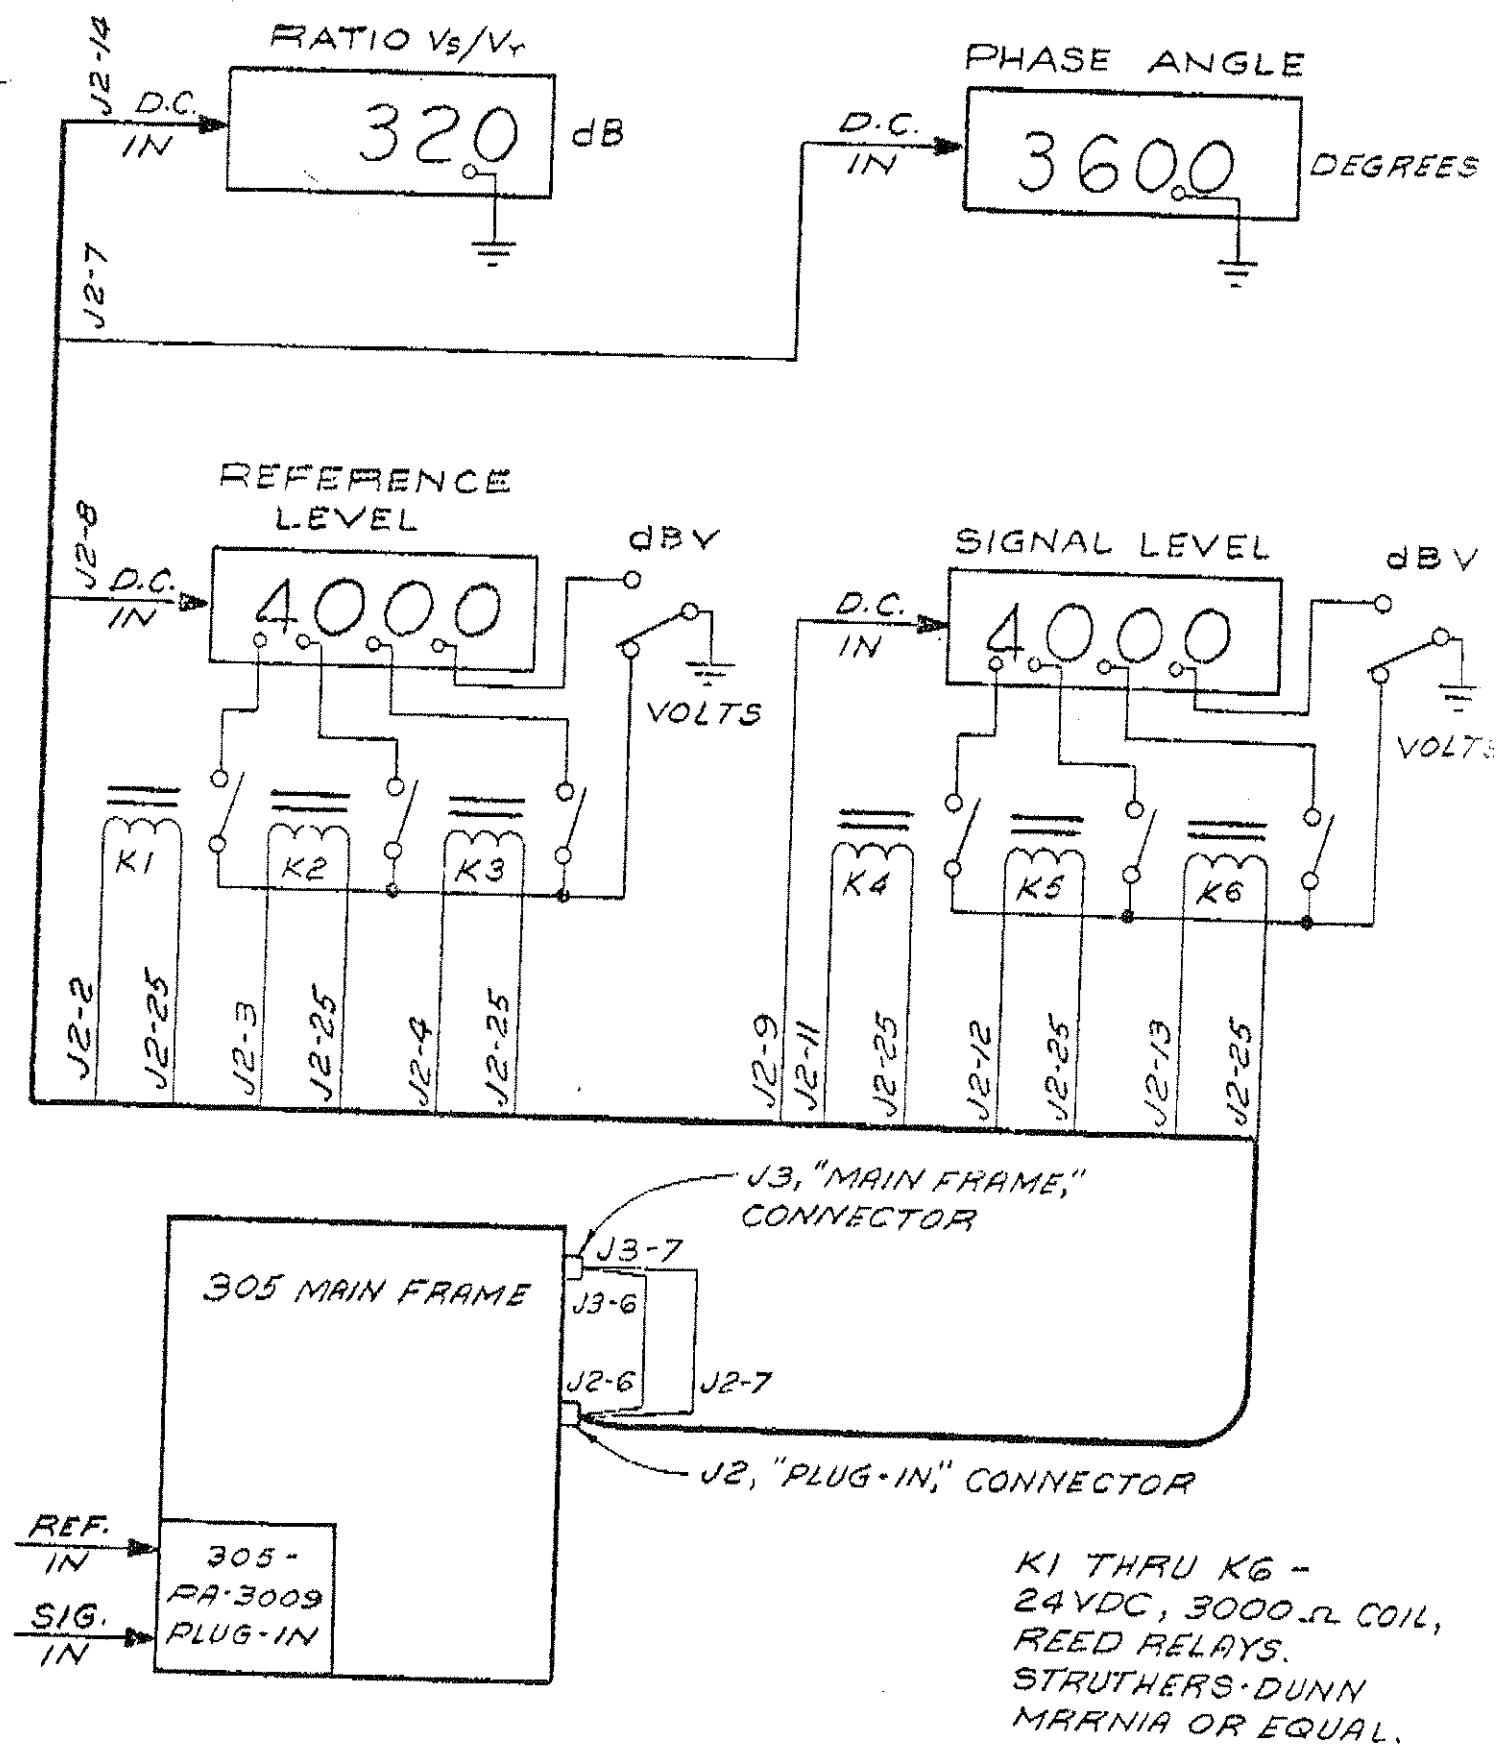

FIGURE 2-2, CONNECTION DIAG.
2.3.6 Six decimal point outputs are available at the PLUG-IN (J2) connector on the rear of the main frame. These outputs are identified by Table 2-2. Figure 2-2 shows a typical hook up illustrating the use of these decimal point outputs in conjunction with external DPM's.